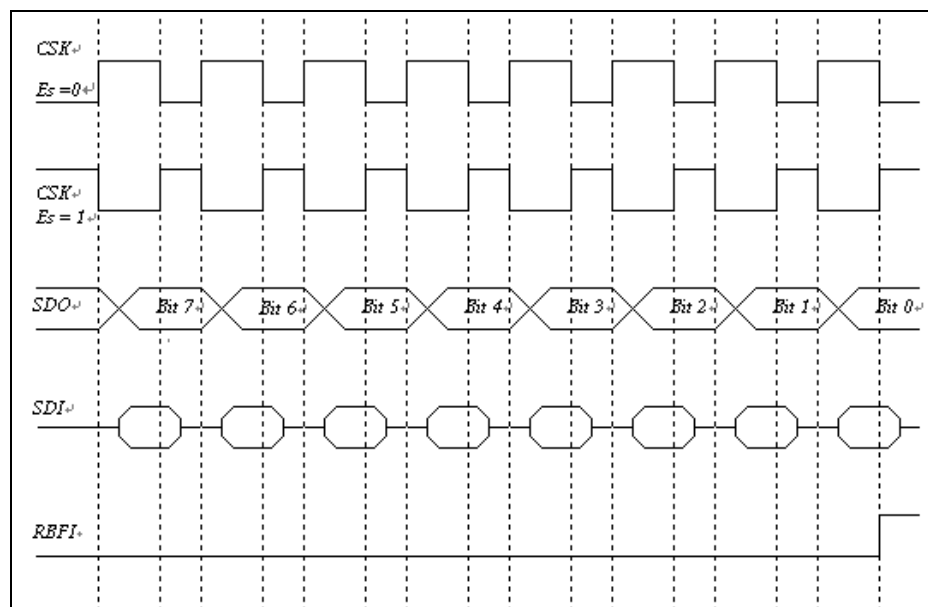
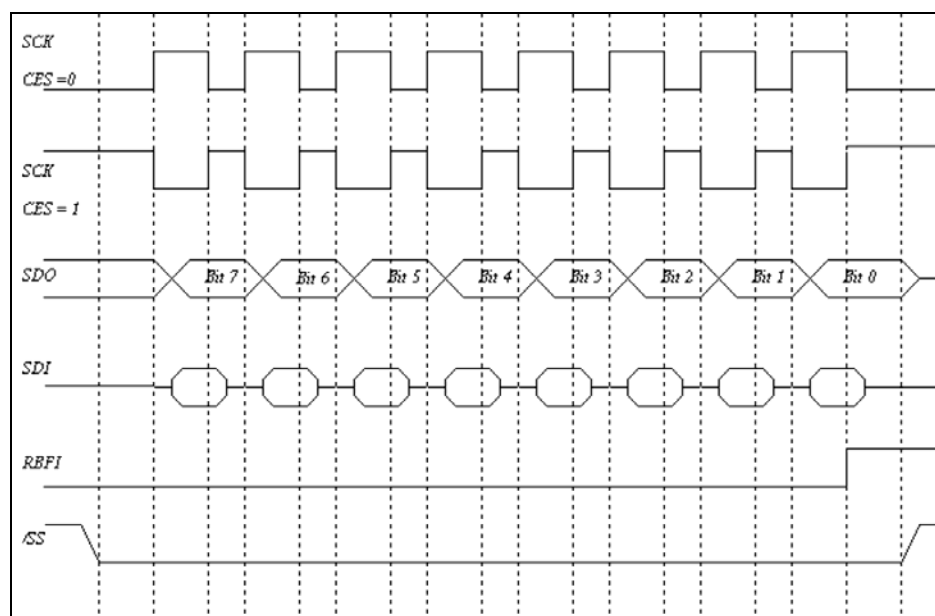

Figure 6-22 SPI Mode with /SS Disabled
Figure 6-23 SPI Mode with /SS Enabled
- Timing is shown in Figures 6-22 and 6-23
The SCK edge is selected by programming bit CES. The waveform shown in Figure 6-22 is applicable regardless whether the EM78F568N/EM78F668N is in master or slave mode with /SS disabled. However, the waveform in Figure 6-23 can only be implemented in slave mode with /SS enabled.